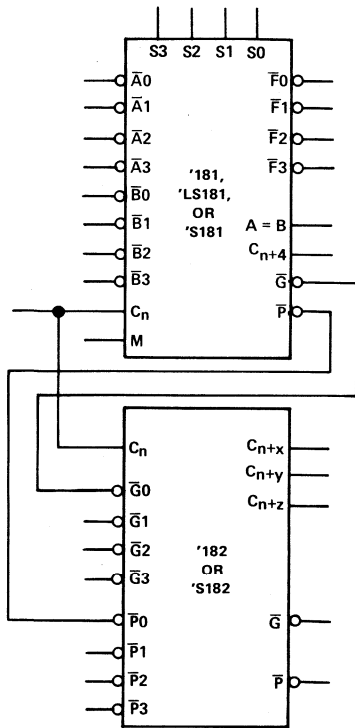
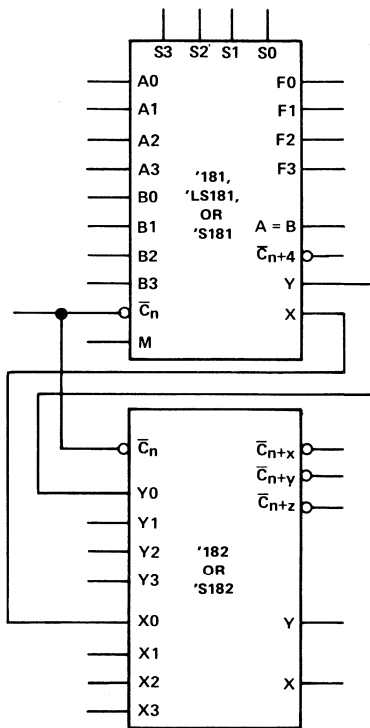

FIGURE 1
FIGURE 2
The '181, 'LS181, and 'S181 together with the '182 and 'S182 can be used with the signal designations of either Figure 1 or Figure 2. The inversion indicators (O) and the bars over the terminal letter symbols (e.g., \bar{C}) each indicate that the associated input or output is active with respect to the selected function of the device when that input or output is low. That is, a low at \bar{C} means "do carry" while a high means "do not carry".
The logic functions and arithmetic operations obtained with signal designations of Figure 1 are given in Table 1; those obtained with signal designations of Figure 2 are given in Table 2.